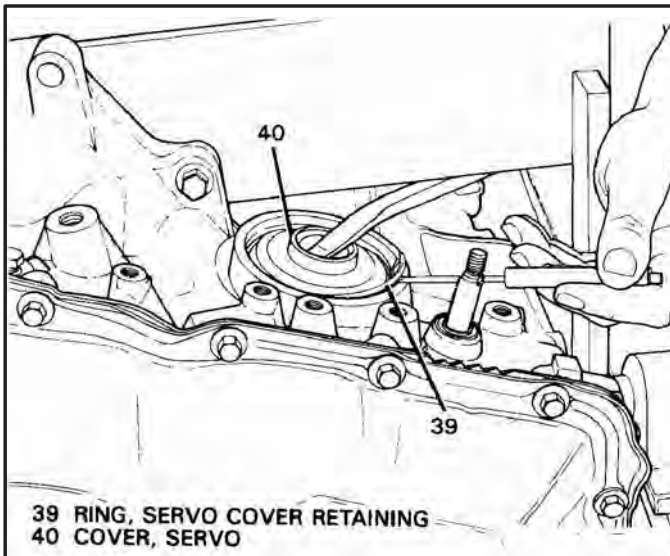

Figure 37
11. Using the support fixture as a pivot point, push the reverse servo cover down with the large screwdriver and remove the snap ring using a smaller screwdriver, as shown in Figure 37.